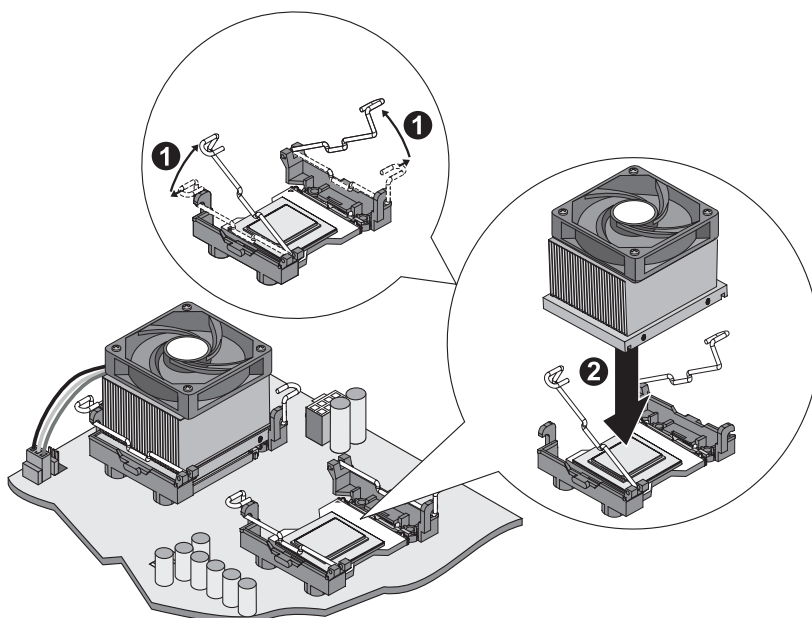

Figure 2-18: Positioning heatsink
5. Open the locking levers on both brackets by pulling the lever out away from the processor socket and rotating it to the vertical position. Then, position the heatsink between the brackets on the processor. Refer to Figure 2-18.
2. Open the locking levers on both brackets. Refer to Figure 2-18.